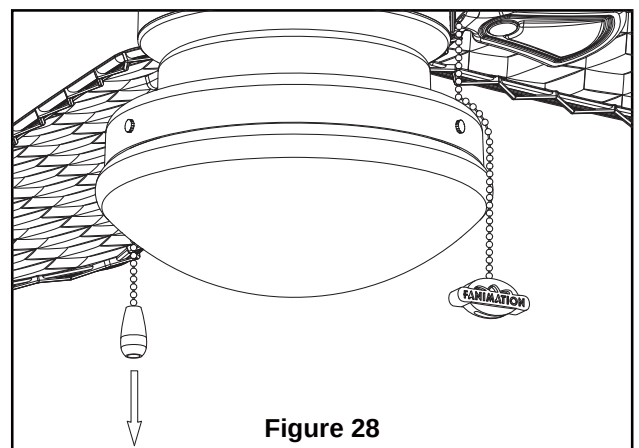

Figure 28
- ☐ 4. <<FP8016**-220 ONLY>> Check the operation of the down light by gently pulling on the light pull chain. (Figure 28)